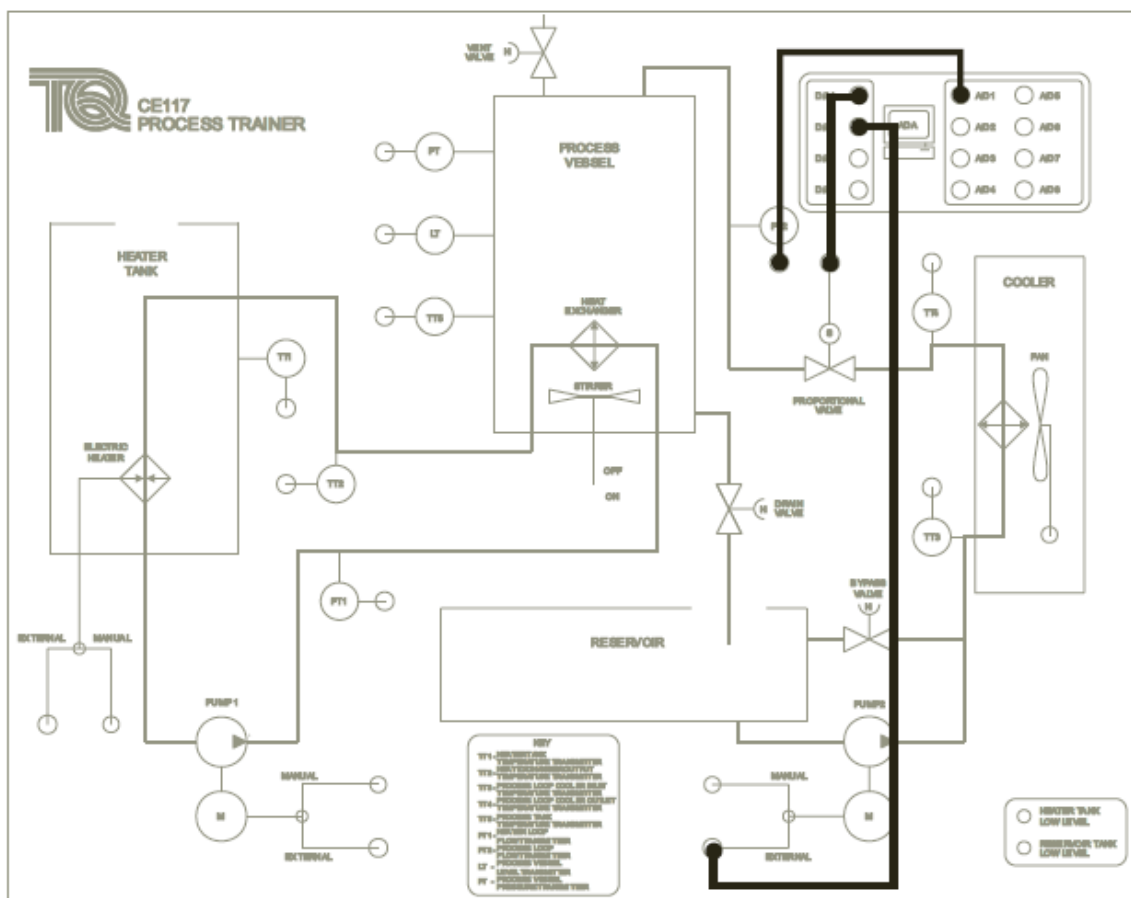

Figure 7 Connections for Experiment 3 Procedure 2
- 3) Connect the CE117 Mimic Panel as shown in Figure 7. Set Pump 2 switch to 'External'. Analogue signals will pass from the ADA section to Pump 2, the proportional valve (S) and from flow transmitter (FT2).